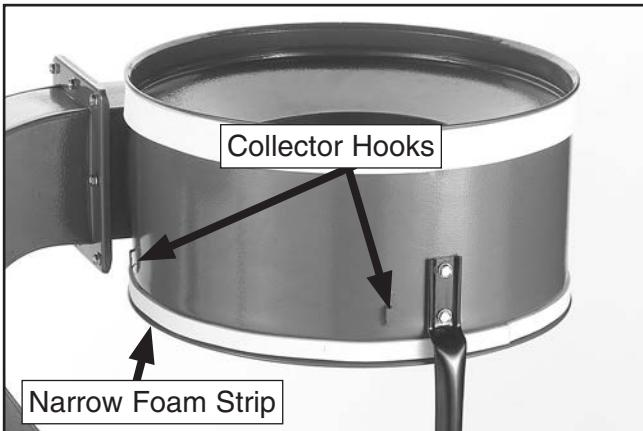

Figure 21. Trimmed foam strip and collector hook locations.
12. Secure the narrow foam strip around the outside bottom rim of the collector and trim the excess, as shown in **Figure 21**.